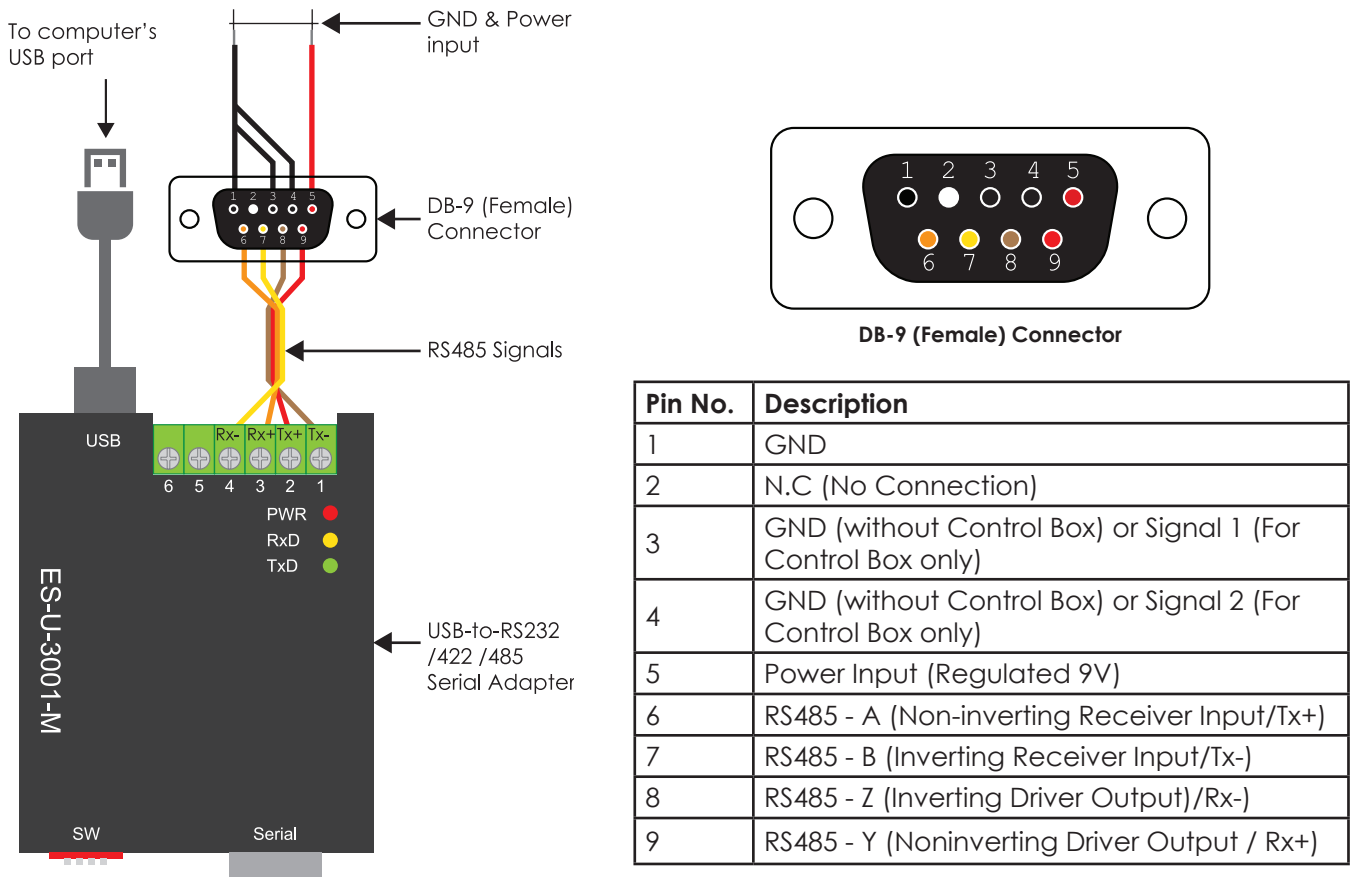

Figure 9. Constructed custom cable and pinout of the DB9 (Female) connec-
1. Prepare the custom cable. The constructed custom cable and the pinout of the DB9 (Female) connector is shown in Figure 9.